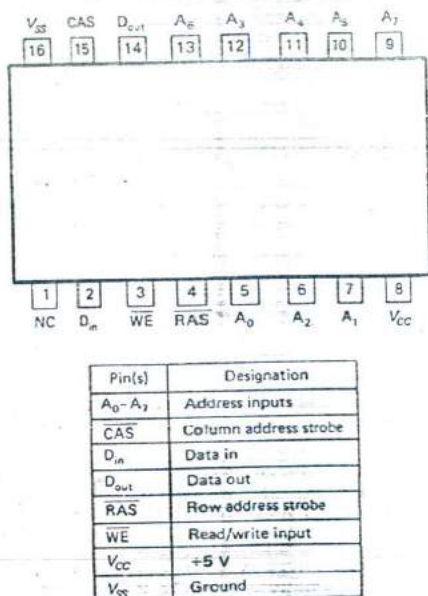

Fig. 11-50 4164 dynamic RAM.
Figure 11-50 represents a 4164 dynamic RAM. It is an MOS device and is arranged as $65,536 \times 1$ -bit. Other dynamic RAMs include 4096×1 , $16,384 \times 1$, and $262,144 \times 1$ bit. Common access times range from 120 to 250 ns. Note that the 4164 has only 8 address pins; 16 address bits are required to decode
51. Refer to Fig. 11-50. How can 65,536 locations be accessed with only 8 address pins?